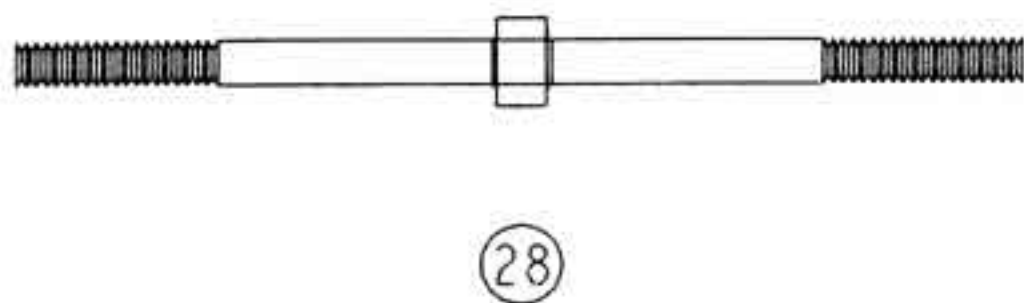

Figure 29A
Step 21. Thread a plastic rod end (27) onto each end of a 2-1/2" turnbuckle (28). Tighten both ends (27) evenly until the camber rod is the same length as the one shown in figure 29A.